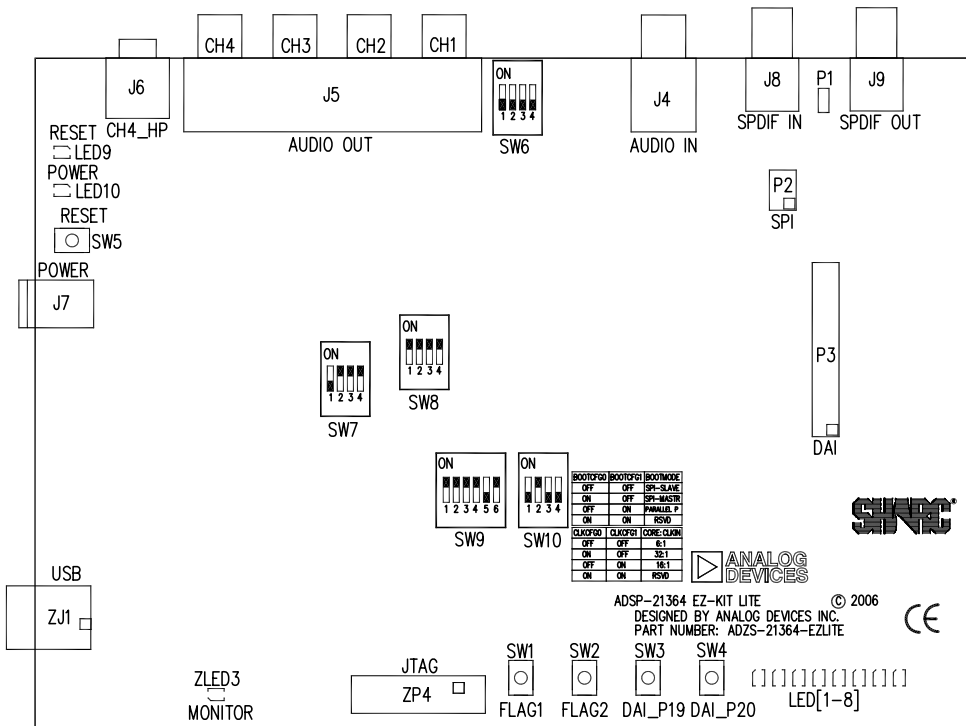

Figure 1-1. EZ-KIT Lite Hardware Setup
2. Figure 1-1 shows the default DIP switch, connector locations, and LEDs used in installation. Confirm that your board is set up in the default configuration before continuing.